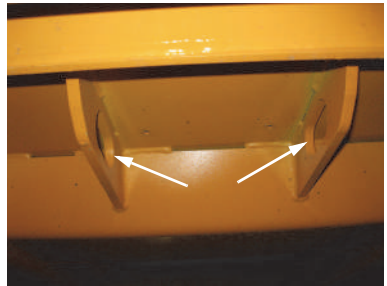
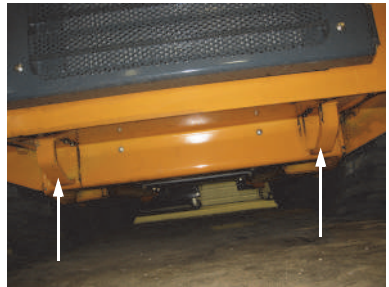

Figure 27 Front Tie-Downs / Retrieval Points
Figure 28 Rear Tie-Downs / Retrieval Points
5. Fasten the loader to the hauling vehicle at the points indicated by the tie-down decals (Figure 27 and Figure 28).